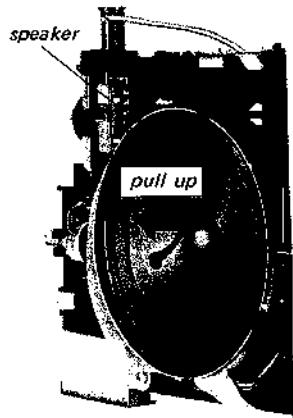

Fig. 2-6.
5. Remove the speaker as shown in Fig. 2-6 and unsolder the two speaker leads.